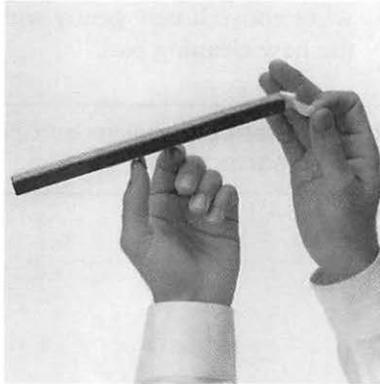

Figure 6-8
5. Remove and discard the white felt tip from the end of the cleaning pad. (See Figure 6-8.)